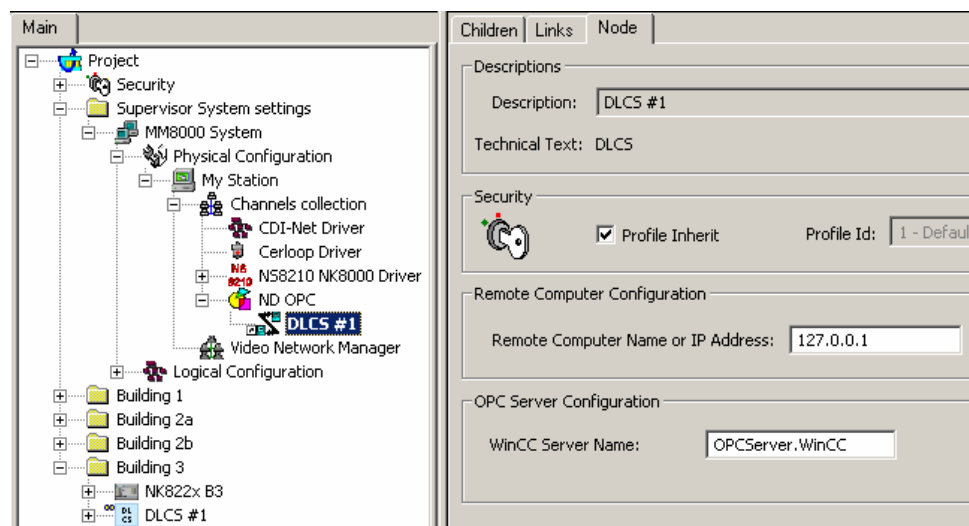

Fig 5 Setting server computer name or IP address
3. In the Node tab, set the Remote server name or IP address (see Fig 5).